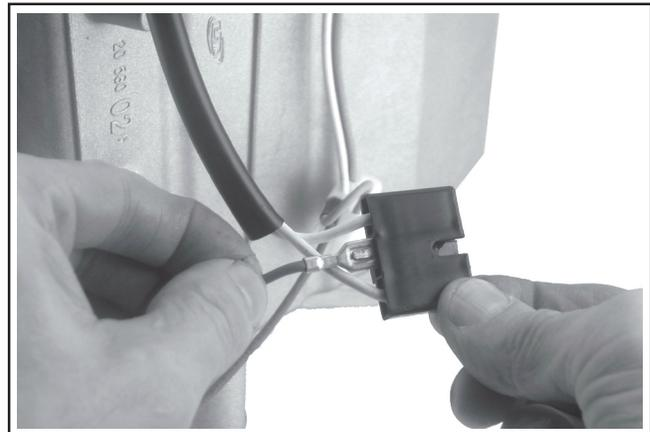

Figure 10-43. Installing B+ Lead into Connector.
- Check that the locking tang on the terminal of the violet B+ wiring harness lead is angled upward. Insert the terminal into the center location of the rectifier-regulator plug connector until it locks into place. If not already inserted, the two AC leads from the stator go in the outer locations. See Figure 10-43.